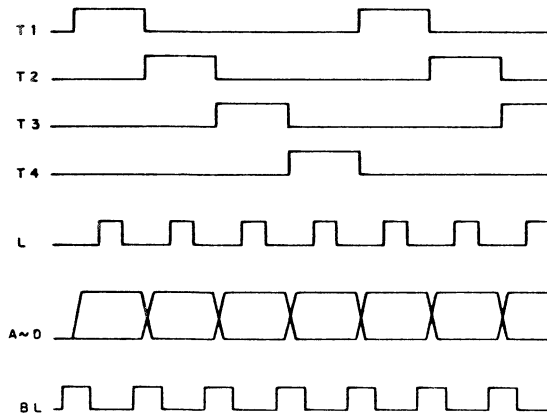

Fig. 4-4 Data Program Signal Time Chart
The data program signals used to designate FM/AM operation and the programmable counter frequency division ratio consists of BCD code pulse(A-D), time division pulse(T1-T4), and load pulse(L) signals. See fig.4-4 for an outline of the data program signal time chart.
The time division pulse generated by TC9124AP (outlined in fig.4-4) is a time-sharing timing signal used in synchronizing almost all TC9124AP inputs and outputs.